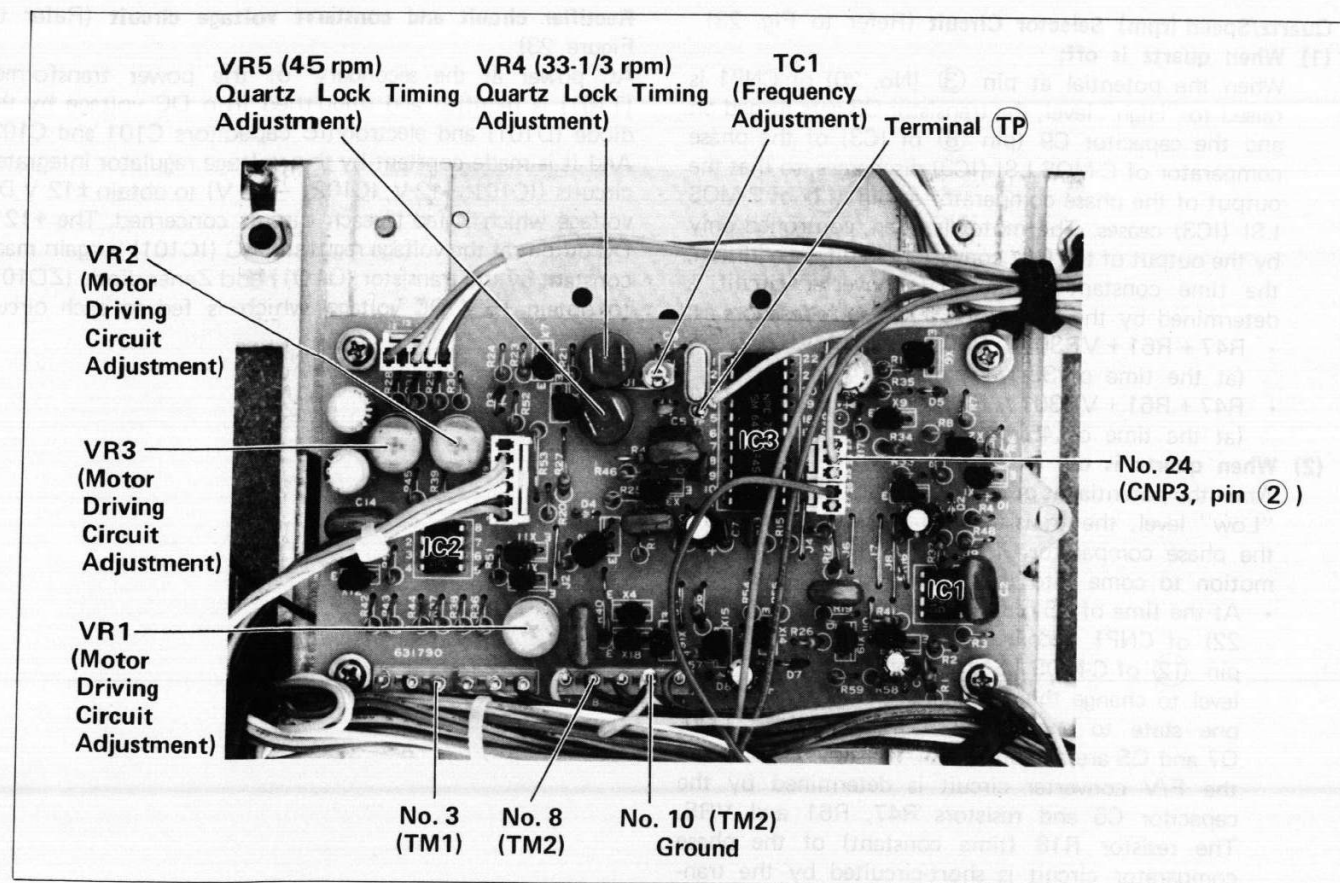

Figure 29-1 ALIGNMENT POINTS OF DD MOTOR CONTROL CIRCUIT
7. Adjustment of Motor Driving Circuit (Refer to Figure 29-1)
8. Frequency Adjustment and P.L.L. Lock Adjustment of Motor Control Circuit (Refer to Figure 29-1)
8-1. Frequency adjustment (Refer to Figure 29-1)
8-2. Quartz lock timing adjustment (Refer to Figure 29-1)